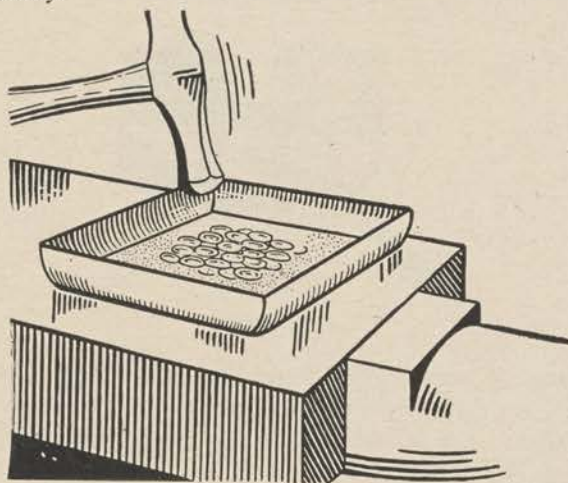

Figure 101.
b. Planishing is one of the commonest methods of finishing metal. This consists of giving it an uneven surface by hammering it with the round end of a ball pein hammer (fig. 101). The article should rest on a metal surface, an anvil for flat work, a rounded metal stake for curved objects. Generally it